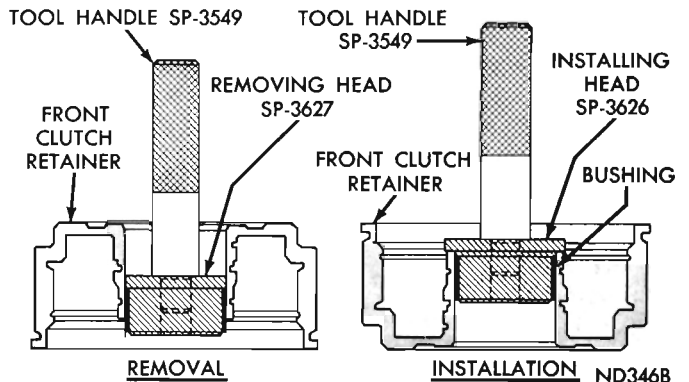

Fig. 69—Replacing Front Clutch Retainer Bushing (A-904)
(1) Lay clutch retainer (open end down) on a clean smooth surface and place removing head Tool SP-3627 in the bushing (Fig. 69). Install handle Tool SP-3549 in removing head.
(2) Drive bushing straight down and out of clutch retainer bore. Be careful not to cock tool in the bore.
(3) Lay clutch retainer (open end up) on a clean smooth surface. Slide a new bushing on installing
head Tool SP-3626, and start them in clutch retainer bore (Fig. 69).